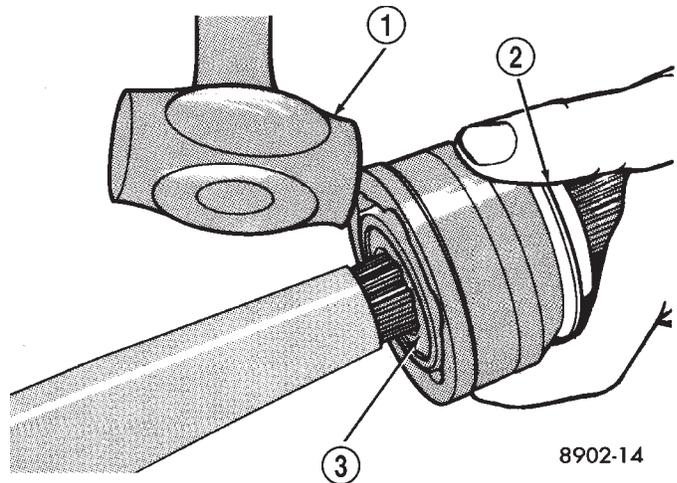

Fig. 37 Outer C/V Joint Removal from Interconnecting Shaft
(3) Wipe away grease to expose outer C/V joint and interconnecting shaft.
(4) Remove outer C/V joint from interconnecting shaft using the following procedure: Support interconnecting shaft in a vise **equipped with protective caps on jaws of vise to prevent damage to interconnecting shaft**. Then, using a **soft-faced hammer**, sharply hit the end of the C/V joint housing to dislodge housing from internal circlip on interconnecting shaft (Fig. 37). Then slide outer C/V joint off end of interconnecting shaft, joint may have to be tapped off shaft using a **soft-faced hammer**.